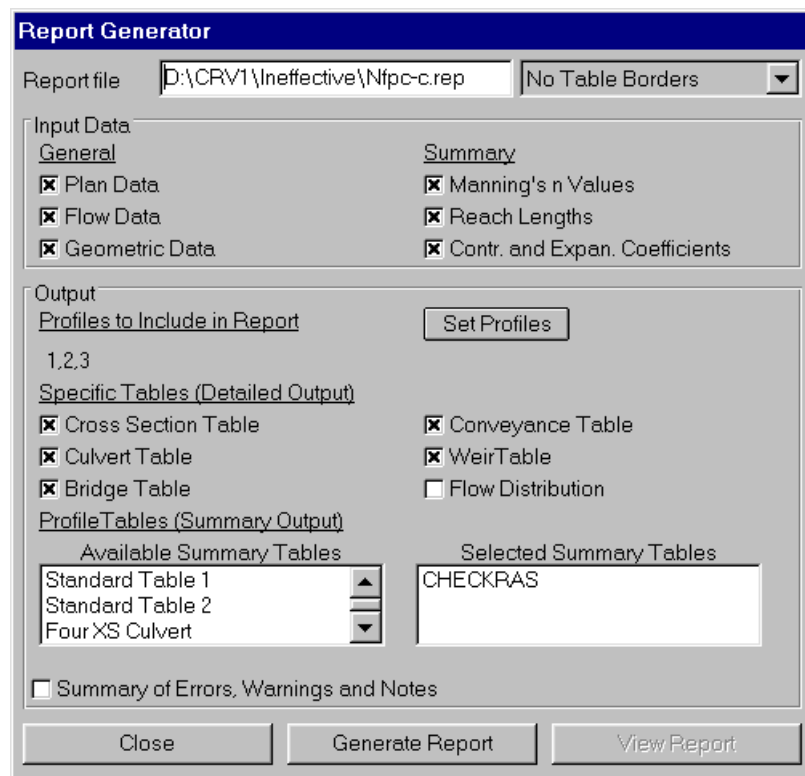

Figure 4. Report Generator Window in HEC-RAS
4. Click the **OK** button. The **HEC-RAS** window will appear with the latest plan that was run for the selected project. Click the **File** menu from the **HEC-RAS** window and click the **Generate Report** option. The **Report Generator** window, as shown in Figure 4 will appear. At this step, CHECK-RAS will insert the CHECKRAS Table in the User Tables of HEC-RAS and display it in the **Selected Summary Tables** box in the **Report Generator** window. If it is not there, user should search through the **Available Summary Tables** box and double click on the CHECKRAS Table.
2. Click the File menu on the **HEC-RAS** main window and select Generate Report. The boxes that must be checked in the **Report Generator** window are shown in Figure 4